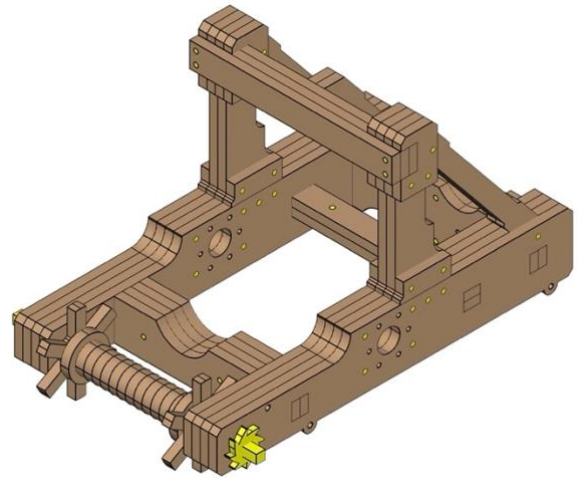

Fig. 42
- *Fig. 42* shows the completed process.